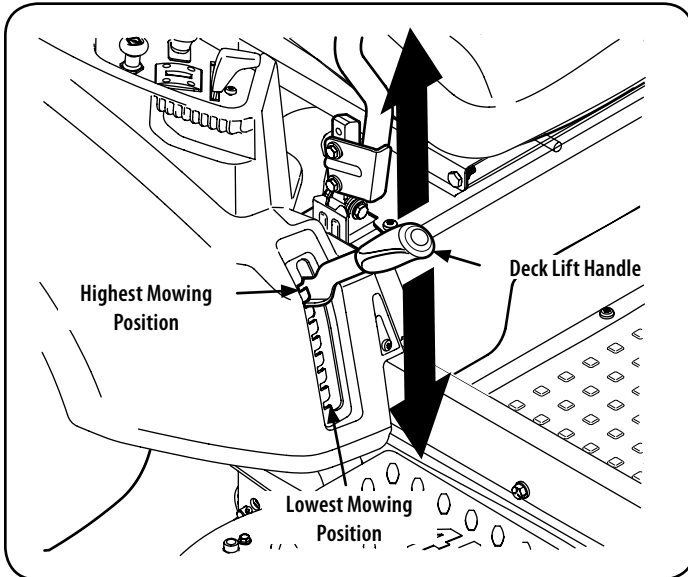

Figure 33
- a. Using the deck lift handle, raise the deck to the position that provides the most horizontal run of the belt between the deck idler pulleys and the PTO pulley on the bottom of the engine. See Figure 33.
6. Lower the deck into the lowest position using the deck lift handle. See Figure 33.
- Place the deck lift handle in the highest mowing position. See Figure 33.